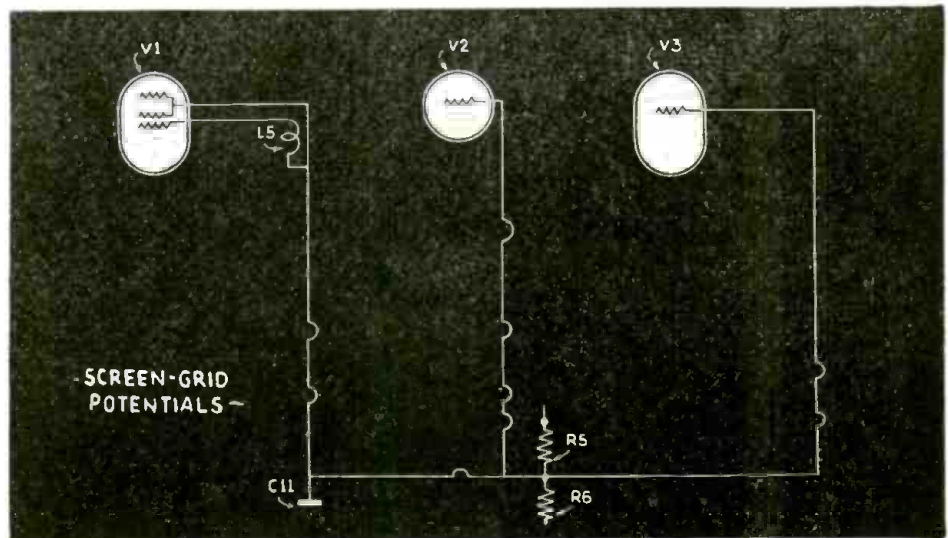
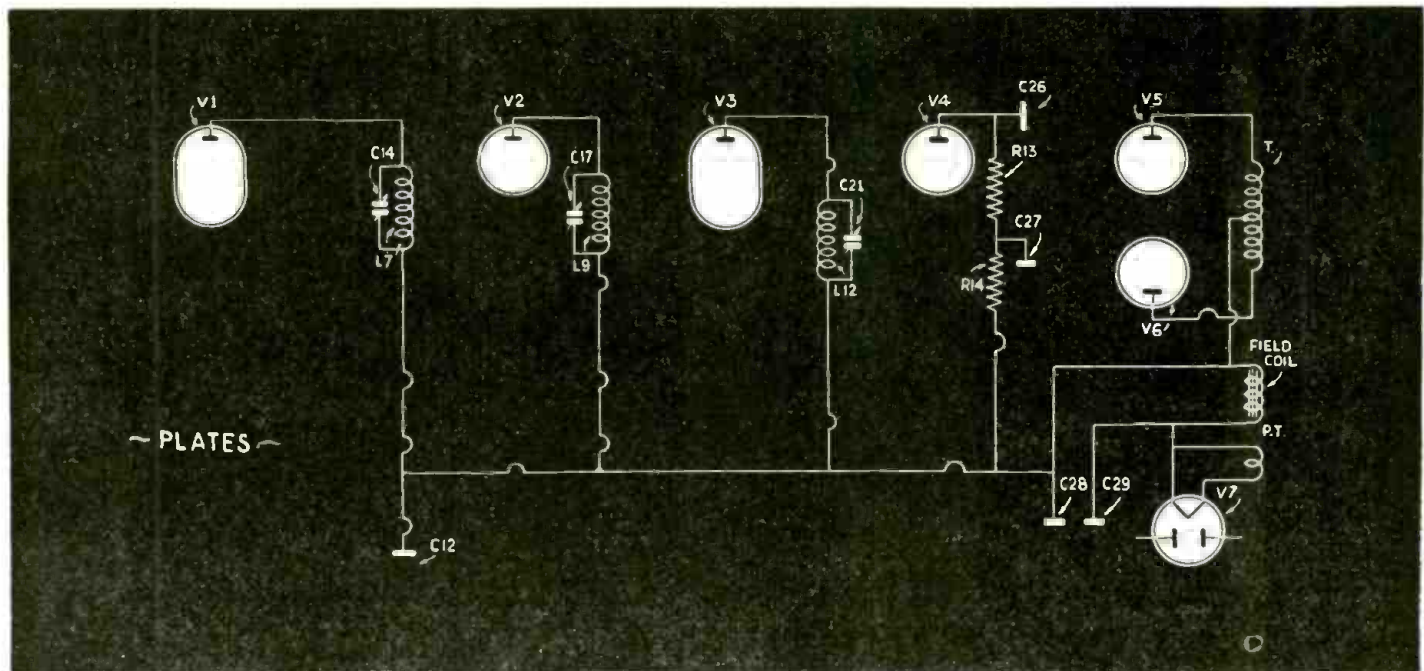

Fig. 4
Fig. 3
**Plates and Screen-grids** — The plates (Fig. 3) and screen-grids (Fig. 4) can now be wired-in, avoiding the control-grid wires; under no conditions should the plate or screen-grid wires run parallel to the control-grid wires. Where there is little room or it is impossible because of the placement of parts to avoid running these wires together, by all means shield the control-grid wire and ground the shield.